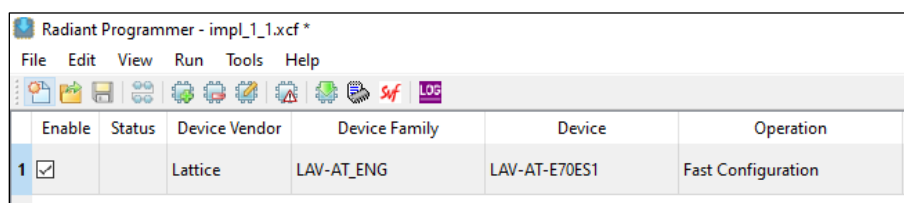

**Figure 7.11. Scan Device Icon on Radiant Programmer**
- If the Device Family shows as Generic JTAG Device, click **Scan Device** as shown in Figure 7.11 to update the Device Family information automatically.